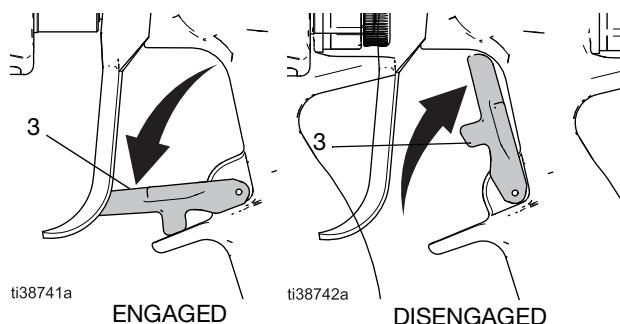

FIG. 12: Trigger lock positions
2. Engage the trigger lock (3). See FIG. 12, page 15.
3. Remove the air cap assembly (8) and spray tip (7).
1. Engage the trigger lock (3). See FIG. 12.
4. Disengage the trigger lock (3). See FIG. 12.
6. Engage the trigger lock (3). See FIG. 12.
7. If you suspect the spray tip (7) or gun fluid supply hose (G) is clogged or that pressure has not been fully relieved:
- a. VERY SLOWLY loosen the retaining ring (8b) or the hose end coupling (22) to relieve pressure gradually.
- b. Loosen the nut or the coupling (22) completely.